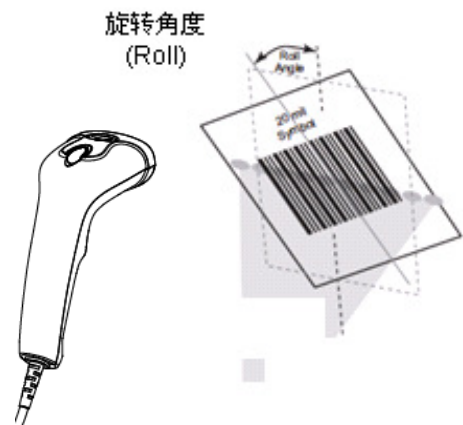

Fig. 1-8
- ◇ Roll : $\pm 30^\circ$, 0° Pitch and 0° Skew (Fig. 1-8)